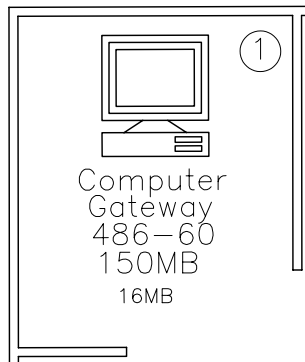

Figure 16-49 Zoomed view of the first computer
1. Open the drawing created in Example 2. The drawing has six blocks with attributes. The name of the block is **COMP** and has five defined attributes. One of the attributes is invisible. Zoom in the drawing so that the first computer is displayed on the screen, refer to Figure 16-49.